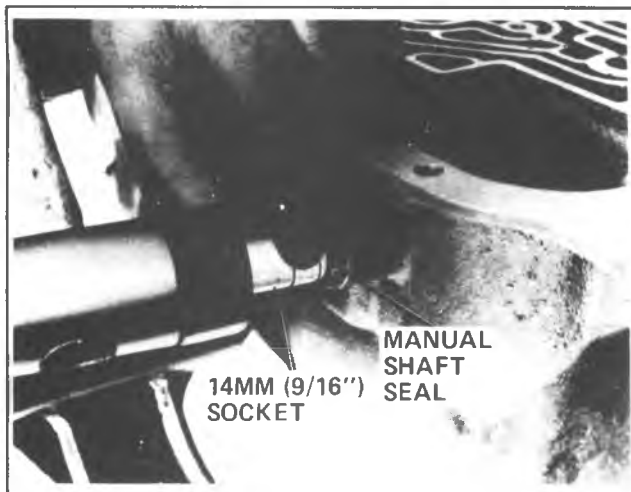

Fig. 7A-53A—Installing Manual Shaft Seal Into Case
2. If removed, install new manual shaft seal with lip facing inward into transmission case using a 13mm or 9/16" socket to seat seal (Fig. 7A-53A).